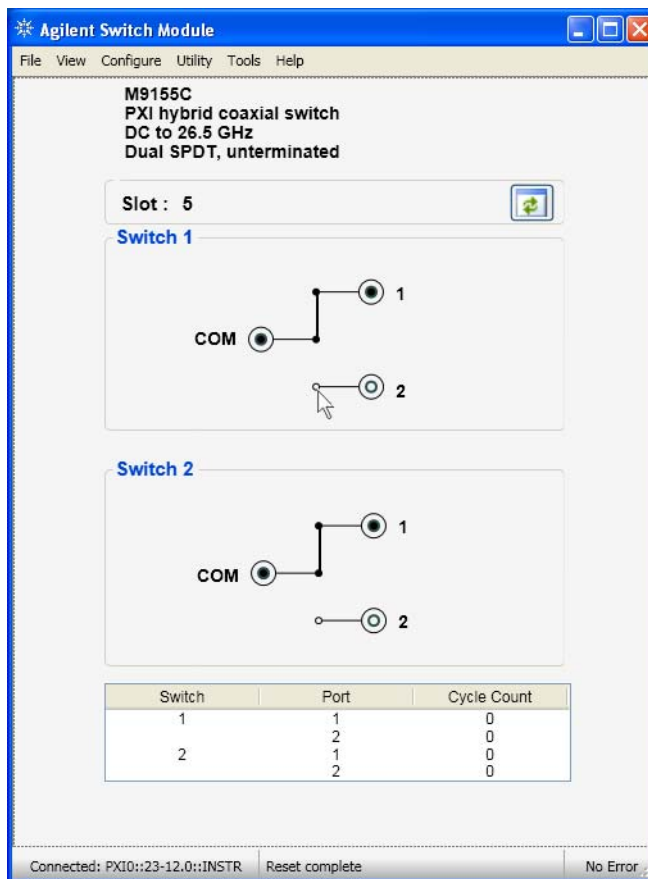
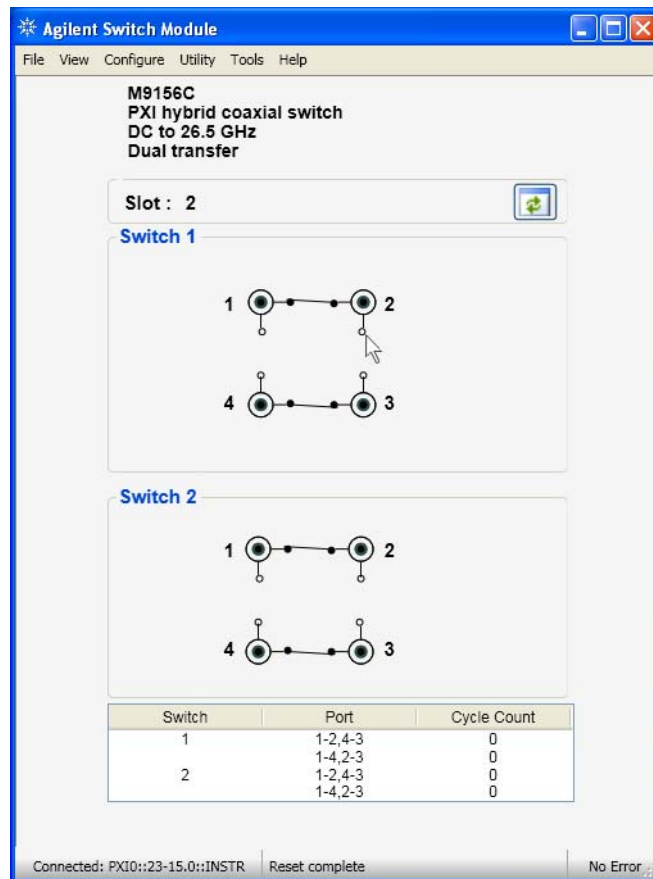
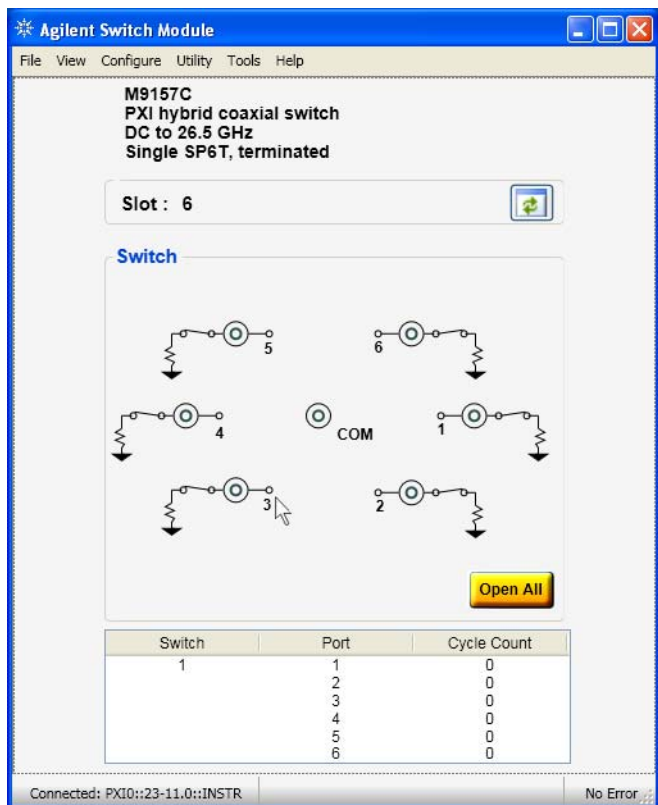

Figure 1-3 M9155C SFP verification
Figure 1-4 M9156C SFP verification
Figure 1-5 M9157C SFP verification
- 3** To verify that the M9155/6/7C is working properly, click one of the switch ports as shown in Figure 1-3, Figure 1-4, and Figure 1-5. You will hear a "click" sound from the module.